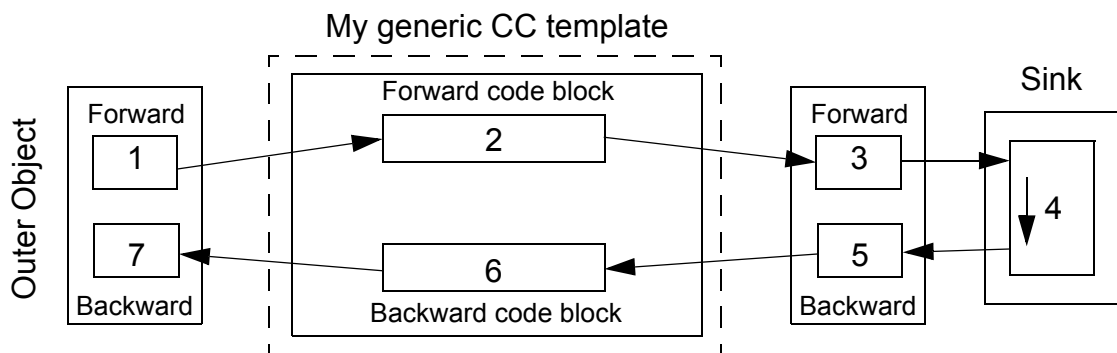

Figure 28. My generic CC template object has a generic solution which simply passes information forward to the next forward object
A generic solution continues to passing the information to the next forward block, which means that it relies on a Sink object (AO) at the end of the chain. A Sink Object (AO) is the most common to use at the end of the chain in a generic solution. It is the Sink that will change the data flow direction to go backwards (Figure 28).
As you can see in Figure 28 the Sink object contains both forward code and backward code in one code block. The backward direction sort order starts at the end of the Sink's common code block. The Sink is writing to the backward block, in this case No (5) in Figure 28.